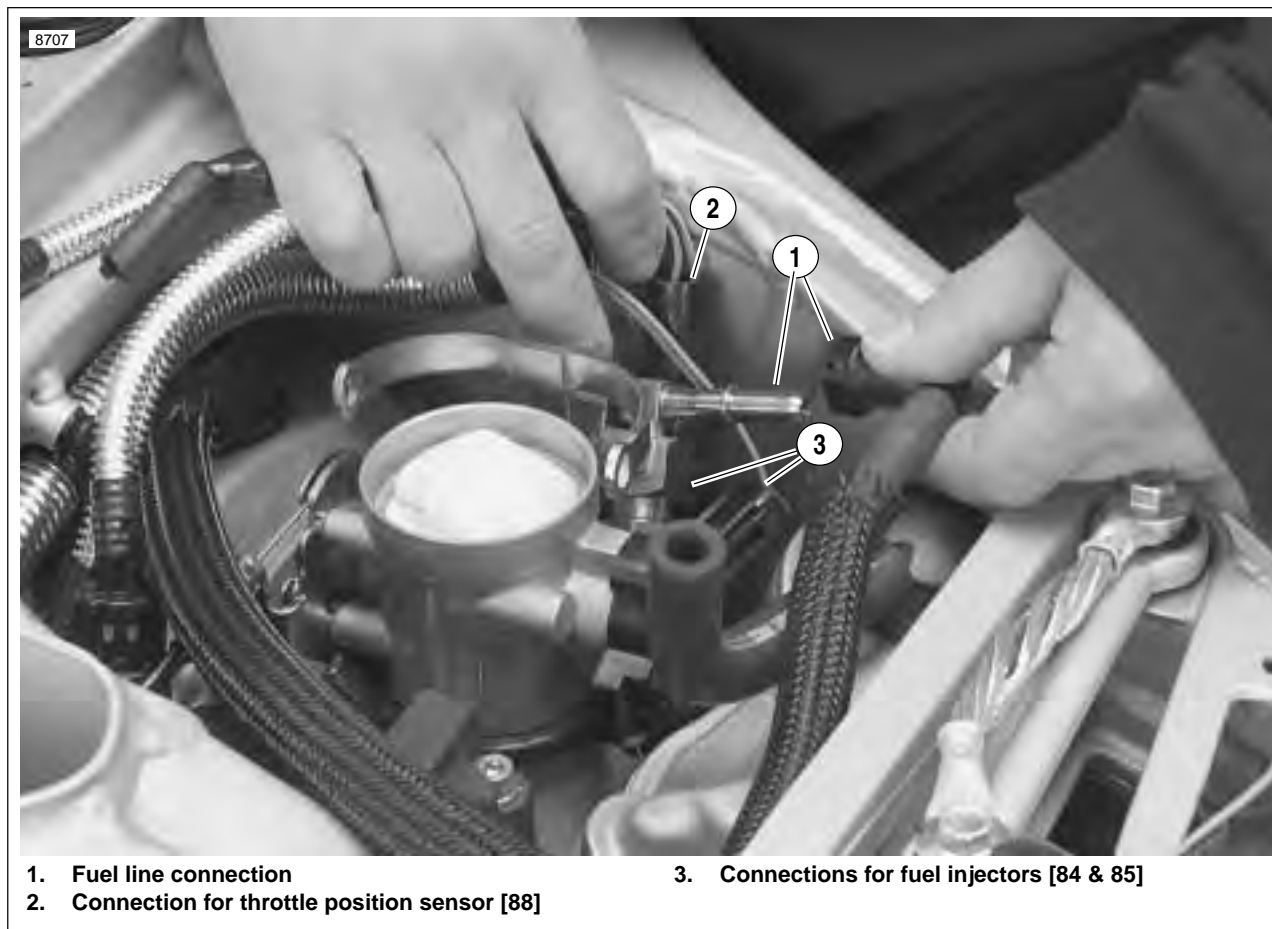

Figure 3-15. Fuel Line and DDFI Electrical Connections
18. See Figure 3-15. Connect throttle position sensor [88].